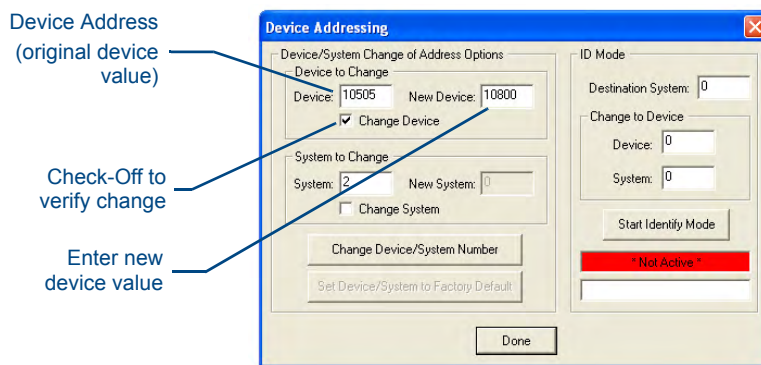

FIG. 17 Device Addressing dialog (changing the device value)
1. Access the Device Addressing dialog (FIG. 17) by either one of these two methods:
1. Access the Device Addressing dialog (FIG. 17 on page 25) by either one of these two methods: